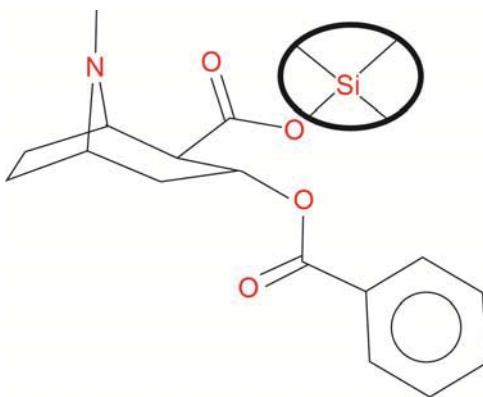

Figure 1. Trimethylsilyl derivative of benzoylecgonine. The underivatized compound has a carboxyl group and is too polar to pass through a GC column.
1. To reduce the polarity and enhance the volatility of high molecular weight polar drugs making them more suitable for analysis via GC-MS (Figure 1).